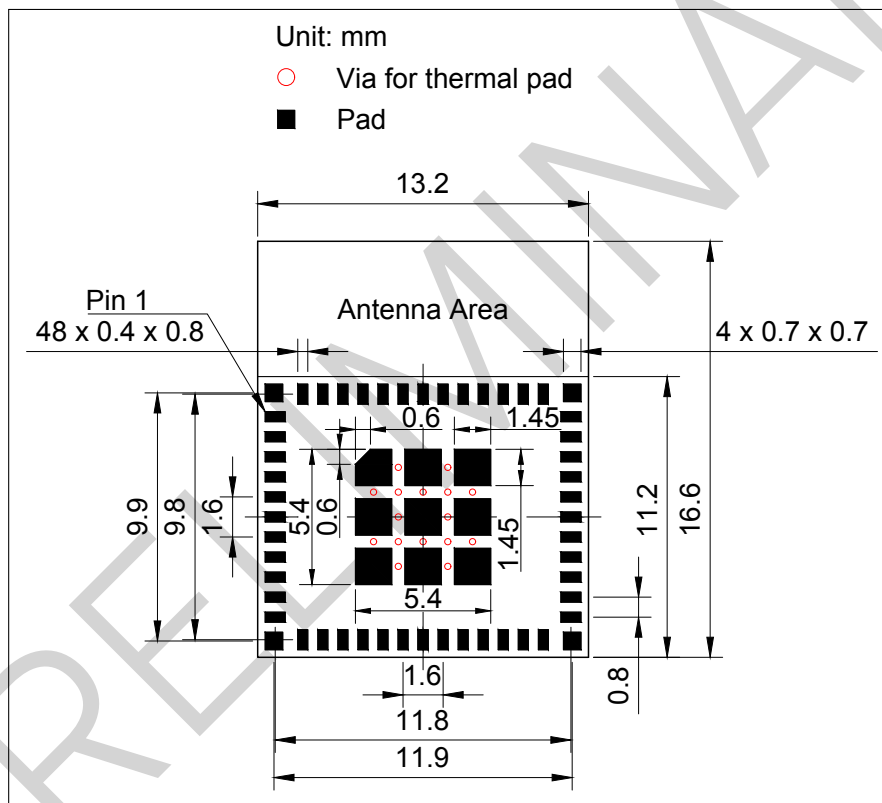
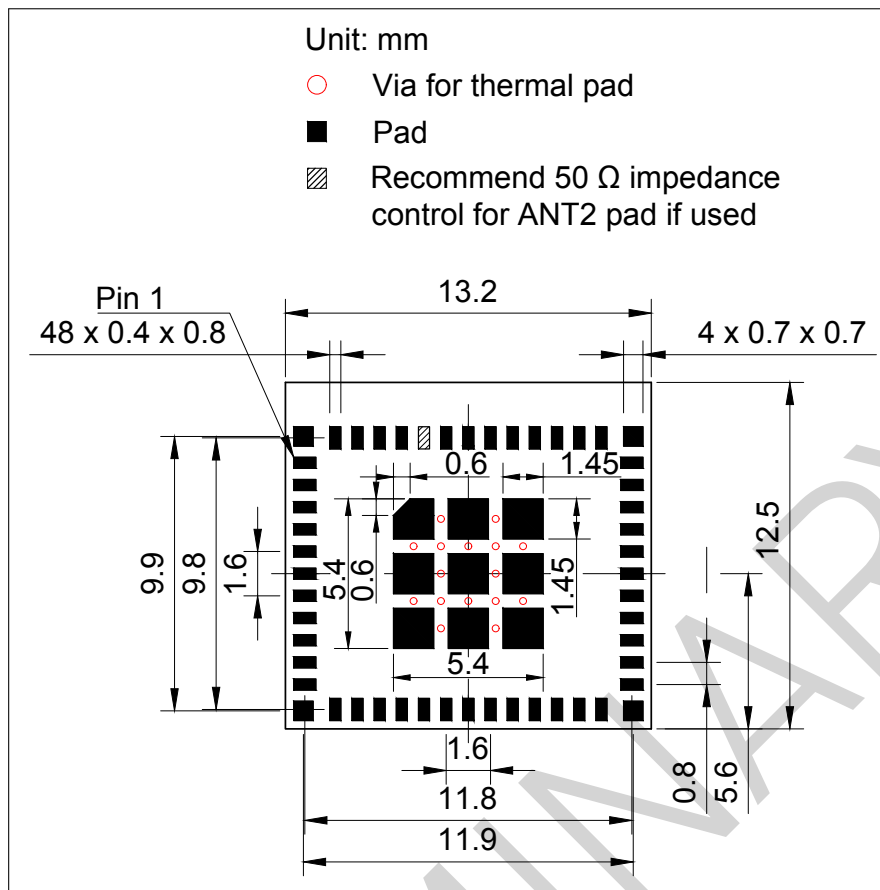

Figure 14: ESP32-C61-MINI-1 Recommended PCB Land Pattern
Figure 15: ESP32-C61-MINI-1U Recommended PCB Land Pattern
- Figures for recommended PCB land patterns with all the dimensions needed for PCB design. See Figure 14 *ESP32-C61-MINI-1 Recommended PCB Land Pattern* and Figure 15 *ESP32-C61-MINI-1U Recommended PCB Land Pattern*.
- Source files of recommended PCB land patterns to measure dimensions not covered in Figure 14 and Figure 15. You can view the source files for ESP32-C61-MINI-1 and ESP32-C61-MINI-1U with Autodesk Viewer.